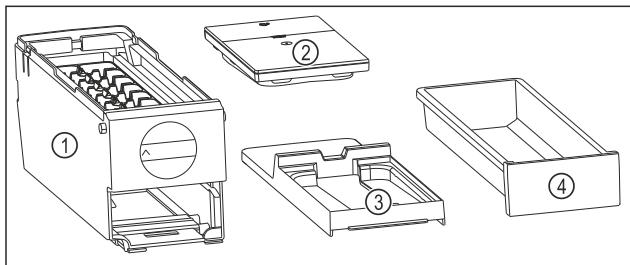

Fig. 88 Components of the EasyTwist-Ice
- ▶ EasyTwist-Ice is dismantled into four parts. (see Fig. 88)
- ▶ Only dismantle the EasyTwist-Ice into the components shown. (see Fig. 88)
- ▶ Clean the EasyTwist-Ice body Fig. 88 (1) as a whole.